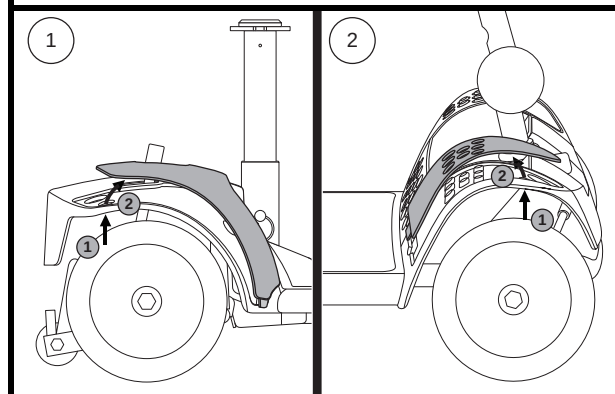

Figure 11. Fender Panels
2. Push through the hole to separate the piece from the Travel Scooter. **See figure 11.**
NOTE: When installing the front and rear fender panels, make sure the tab at the bottom of each panel is inserted into the tab opening before securing the panel. **See figure 11.**